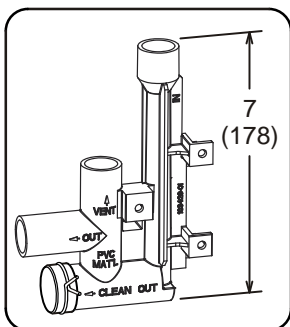

FIGURE 54
This unit is designed for either right- or left-side exit of condensate piping in upflow applications. In horizontal applications, the condensate trap must extend below the unit. An 8" service clearance is required for the condensate trap. Refer to figures 46 and 48 for condensate trap locations. Figure 54 shows trap assembly using 1/2" PVC or 3/4" PVC.
- 3 - Install the cap over the clean out opening at the base of the trap. Secure with clamp. See figure 54.
- 4 - Install drain trap using appropriate PVC fittings, glue all joints. Glue the provided drain trap as shown in figure 54. Route the condensate line to an open drain. Condensate line must maintain a 1/4" downward slope from the furnace to the drain.